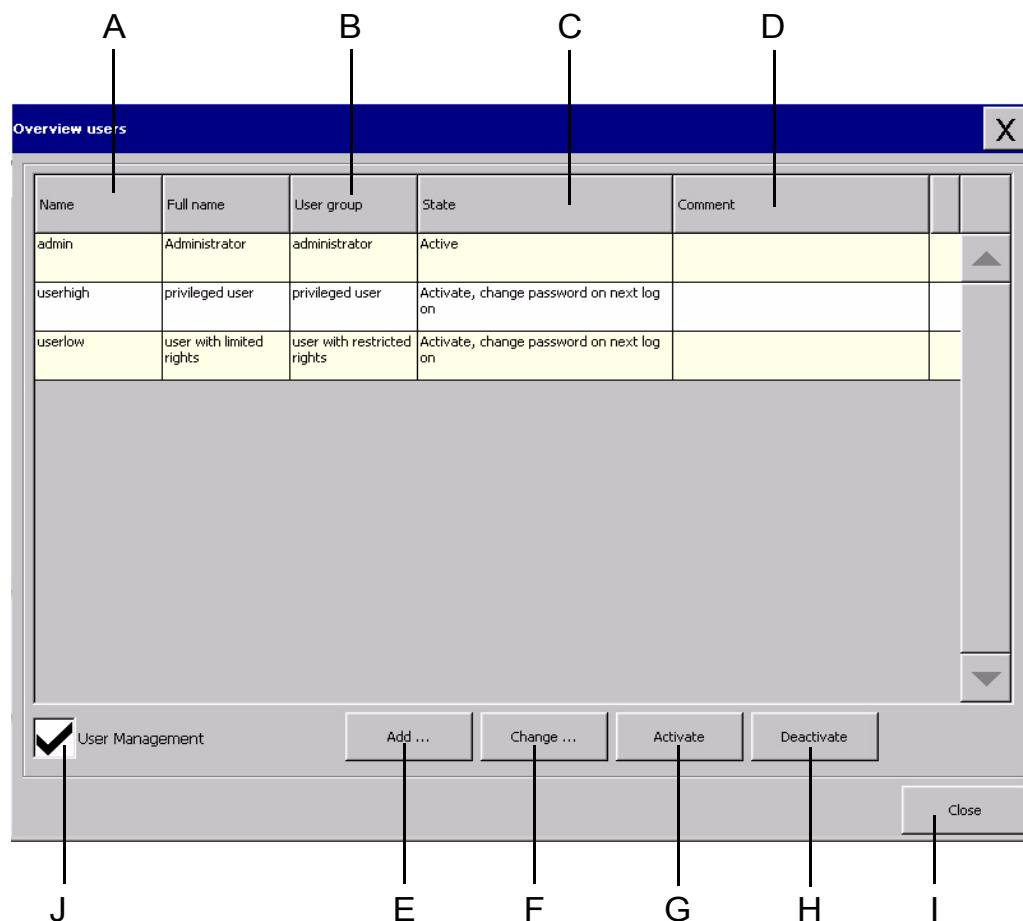

Fig. 3-7
- press the  button in user administration → Fig. 3-7 (page 23).
- press the  button → Fig. 3-7 (page 23).